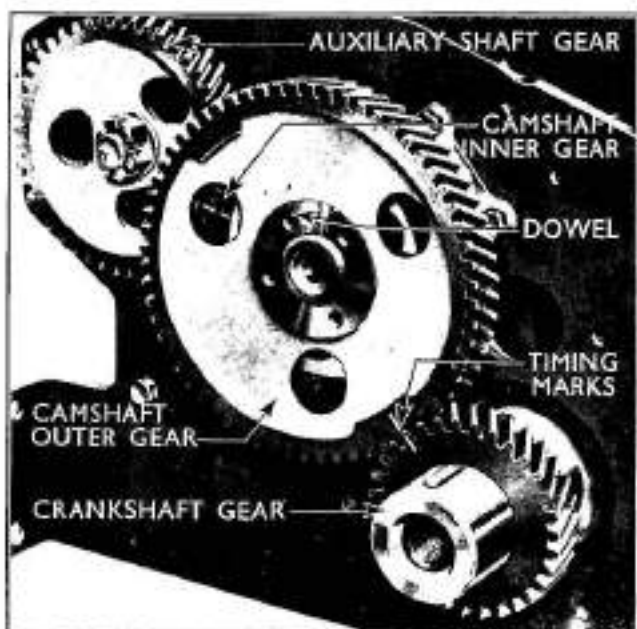

Fig. 33
The camshaft and auxiliary drive shaft are driven from the crankshaft by helical gears. Should they at any time be disturbed the timing gears are suitably marked to facilitate **re-timing** and the marks are all relative to top dead centre compression stroke, No. 1 cylinder. (See Fig. 33.)
- 2 Check the backlash between the gears using a suitable feeler gauge. This should be between 0.003 in. and 0.004 in. (See Figs. 33 and 34.)
- 3 Replace the auxiliary drive shaft gear making sure that its timing mark is in line with that on the camshaft inner gear. (See Fig. 33.)